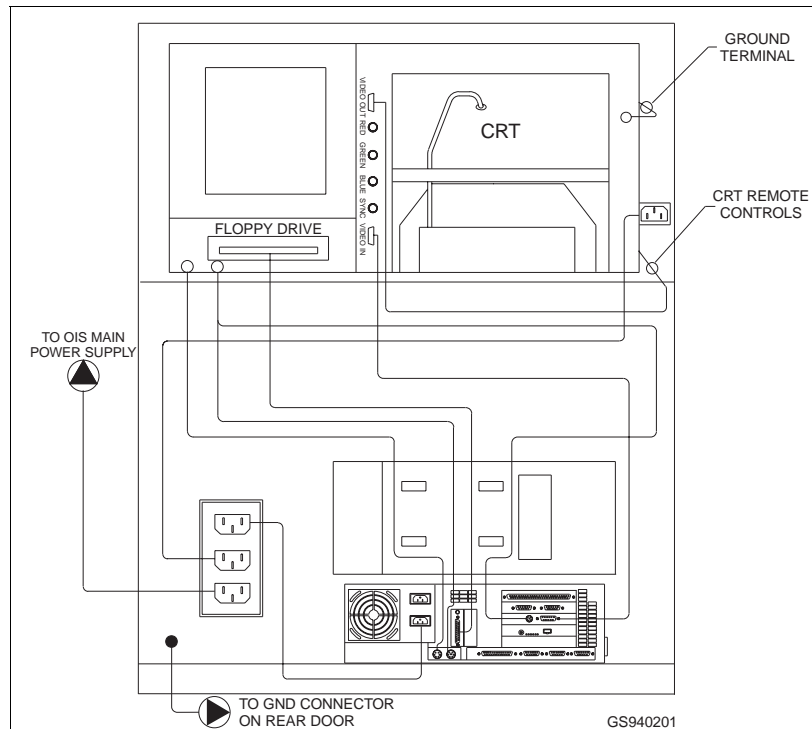

Figure 6-1. Main Circuit Breaker, CBI
NOTE: For the remainder of this section, when the instructions state to apply power to the IIOIS12/IIOIC12, switch the main breaker (CB1 on the power entry panel shown in Figure 6-1) to the **ON** position. To turn off the power to the IIOIS12/IIOIC12, switch the main circuit breaker to the **OFF** position.
7. Using a digital voltmeter, measure the DC voltages at the multibus card cage. Refer to Figure 6-1 for the location to measure the backplane voltages.